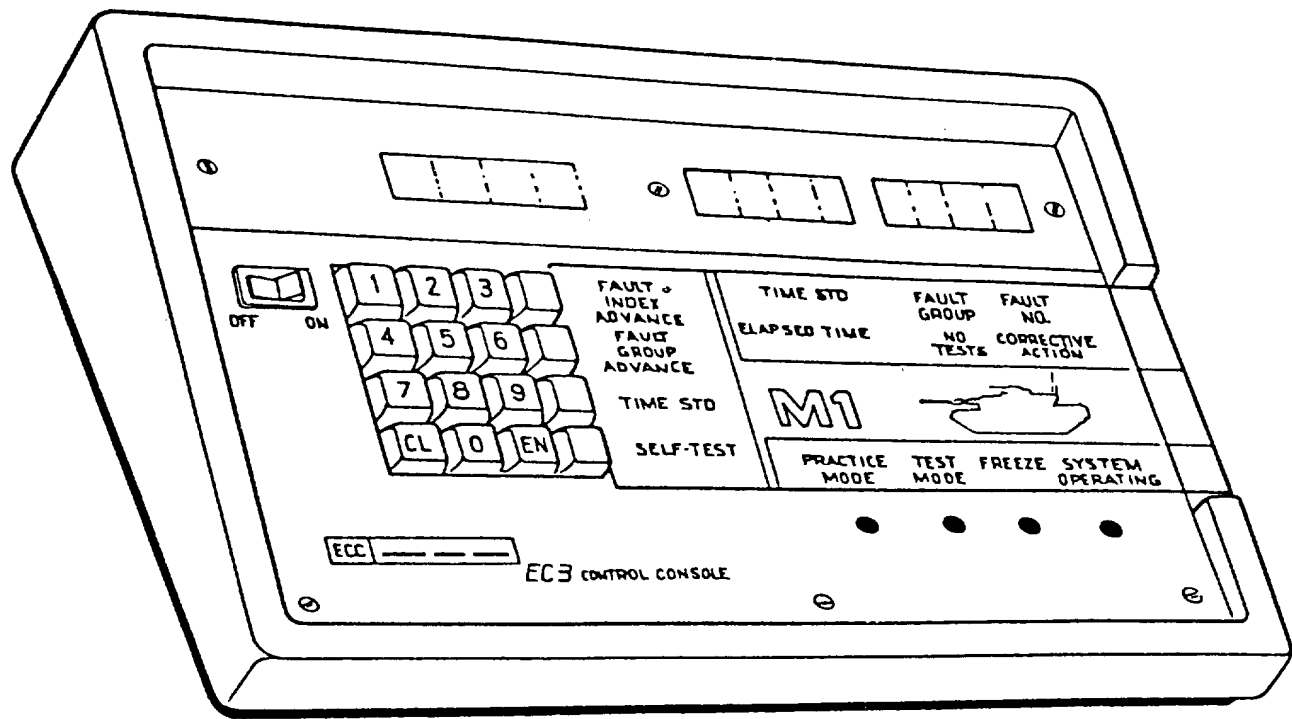

Figure 1-5. Control Console
(2) Keyboard. The keyboard is used to change modes of operation, enter student identification, freeze and unfreeze the simulation, and cue the computer to output a student performance record to the CRT or printer.
f. Control Console. The control console (fig. 1-5) is used to control the operation of the system and monitor student performance. The control console is also used to apply power to the system, test the system, set the time standard, and introduce malfunctions into the system. During set-up procedures, it displays the fault group and fault number being set up and the time standard entered. During operation, it registers tests performed, corrective actions taken, and elapsed time.